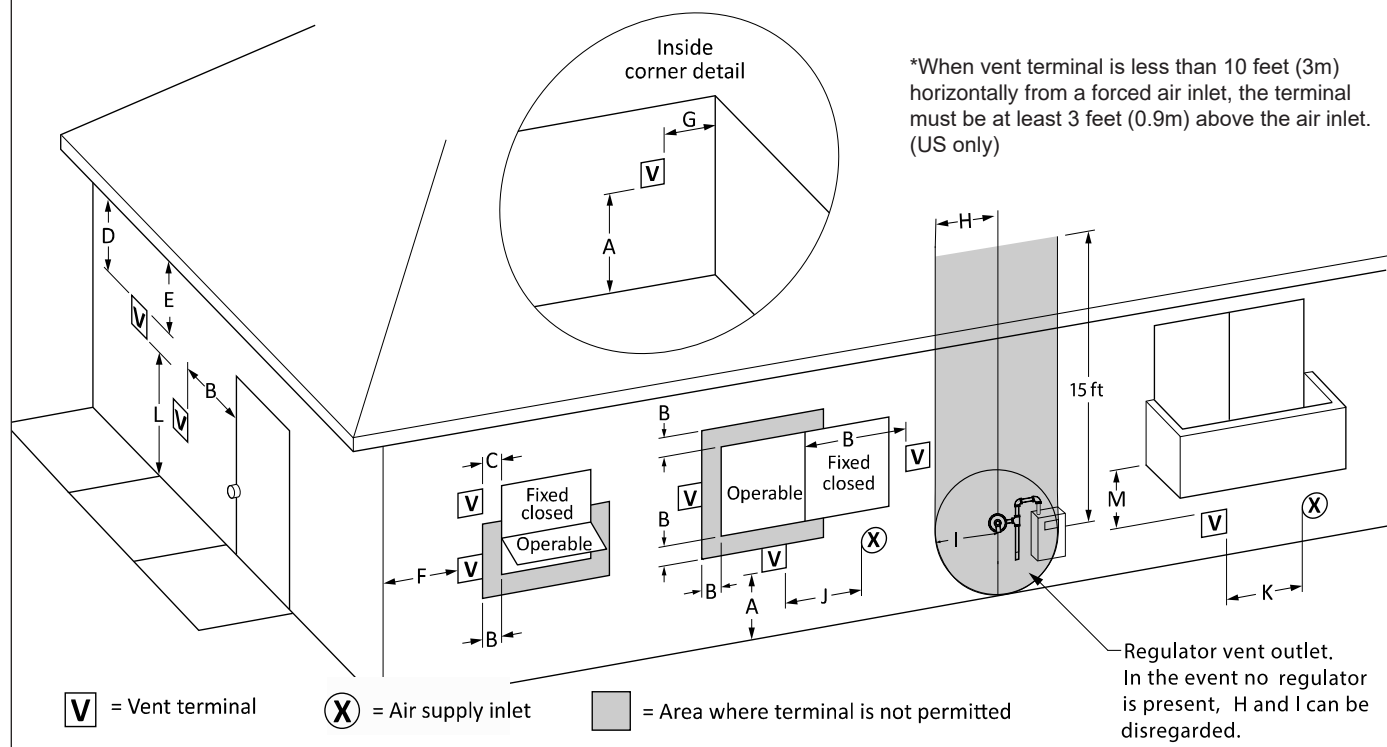
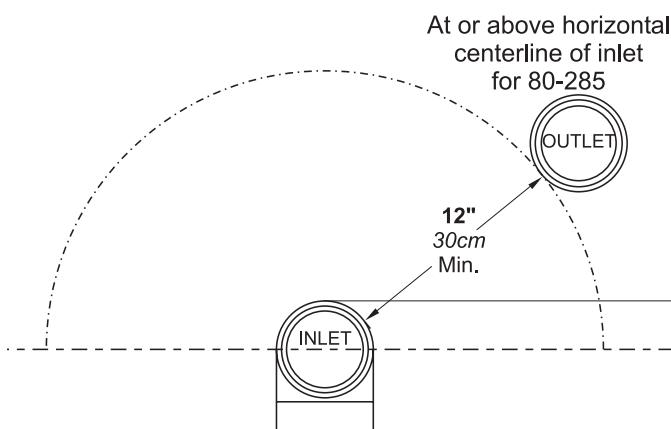

Figure 6. - Combustion Air and Vent Through Side Wall
Figure 7. - Minimum Venting Distance
The appropriate side wall vent terminal must be used. The terminal must be located in accordance with ANSI Z223.1/ NFPA 54 and applicable local codes. In Canada, the installation must be in accordance with CSA B149.1 or .2 and local applicable codes. Consider the points listed on the following page when installing the terminal. 1. Figure 6 shows the requirements for mechanical vent terminal clearances for the U.S. and Canada.
7. If the boiler uses ducted combustion air from an intake terminal located on the same wall, see **Figure 6** through **Figure 7** for proper spacing and orientation.
The Manufacturer side wall combustion air terminal, or concentric terminal must be used when the heater takes air from a side wall. (See **Table 6.**) Contact Manufacturer for AL29-4C termination fittings. Consider the following when installing the terminal. (See **Figure 6** through **Figure 7.**)
7. The vent outlet for models 80-285 must be no lower than the center of the air inlet, and must be at least 12" (30cm) away from the air inlet. Vent outlets for models 399-850 must be at least 12" above the top of the air inlet, and must be at least 36" (90cm) horizontally from the air inlet. (See **Figure 7.**)